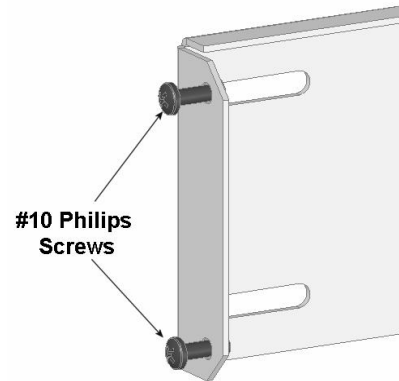

Figure 18. Install Screws into Wall Bracket
NOTE: In Step 1, partially thread the screws into the wall bracket as shown in Figure 18. You will tighten the screws at the end of this procedure.
1. Insert four #10-24 screws (20) into the side of the wall bracket approximately 3/16" apart, two screws per side as shown in Figure 18.